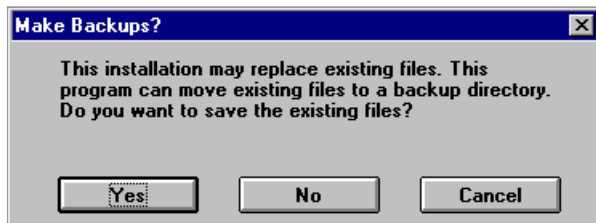

FIGURE 36. TabPro Backups Dialog
8.69 Select the 'No' button on the 'Make Backups' dialog. See Figure 36.